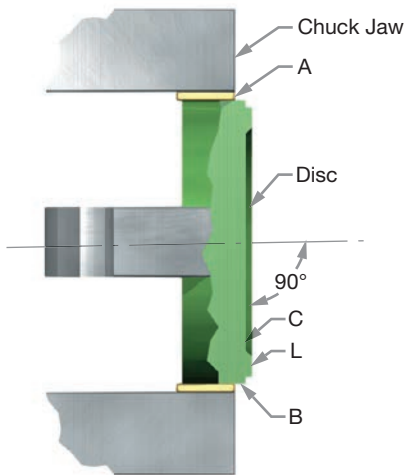

Figure 25: Standard Disc Seating Surface
Machine the standard disc seating surface (see Figure 25) as follows:
1. Grip the disc (6) in a four-jaw independent chuck (or collet, if appropriate), using a piece of soft material such as copper or fiber between the jaws and the disc (see Figure 25).
2. True-up the disc (6) so that the surface marked B and C run true within .001" (0.025 mm) on the total indicator reading (see Figure 25).
T (Figures 30a, 30b, 30c and Tables 5a and 5b) is reached. Do not reestablish surface C (see Figure 25).